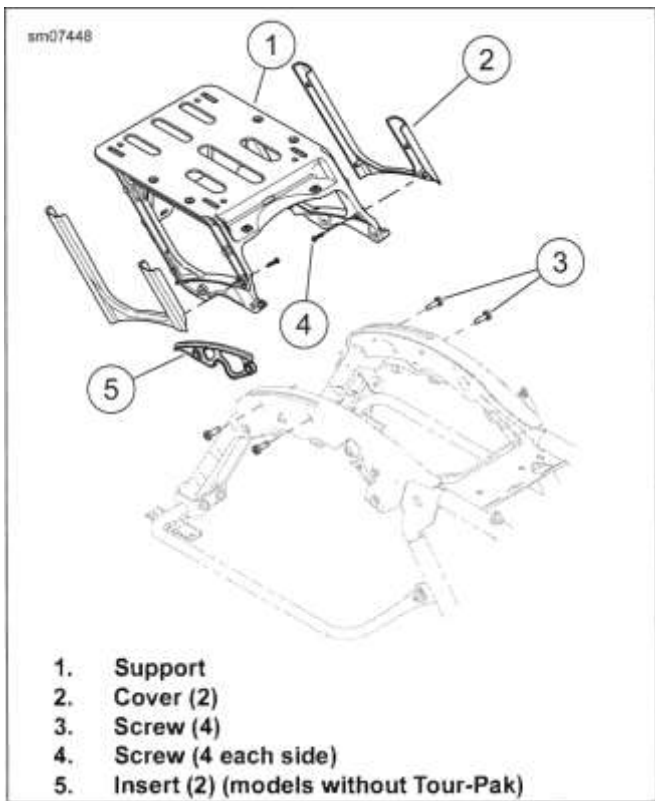

Figure 3-190. Tour-Pak Support
1. See Figure 3-190. Remove four screws (4).
2. Remove cover (2).